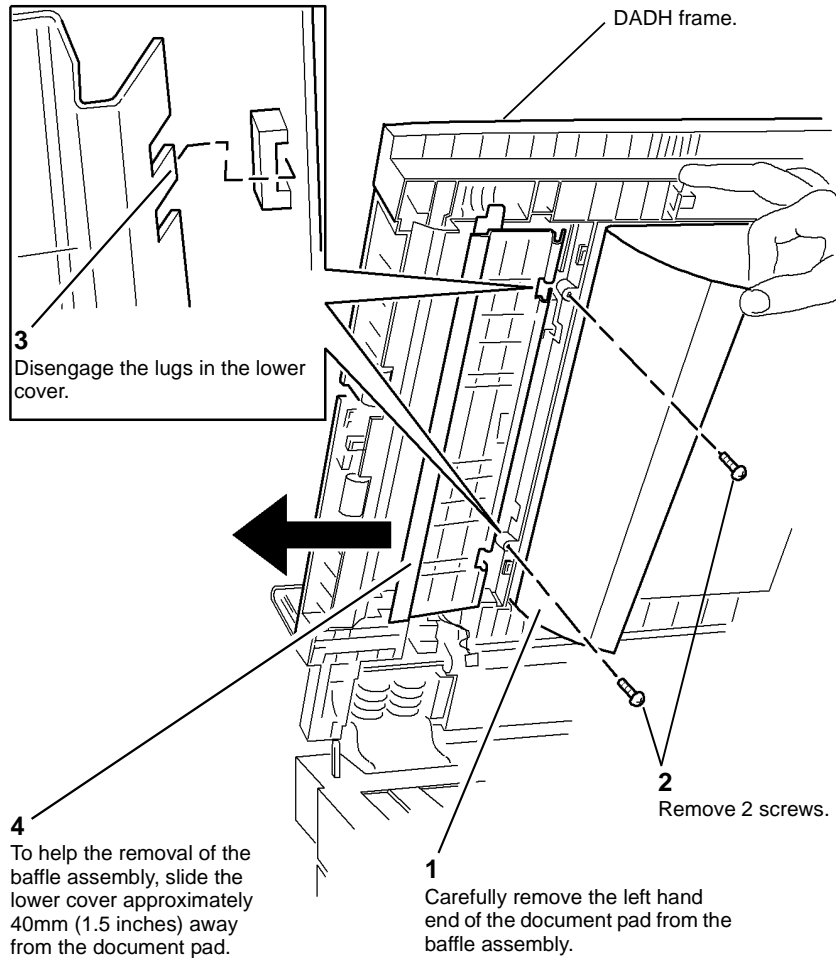

Figure 2 Lower cover
8. Slide the baffle assembly lower cover, **Figure 2**.